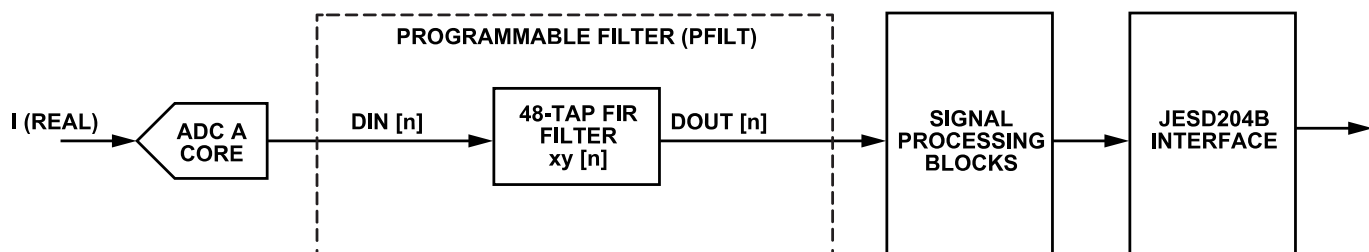

Figure 78. Real 48-Tap Filter Configuration
- Real 48-tap filter (see Figure 78)